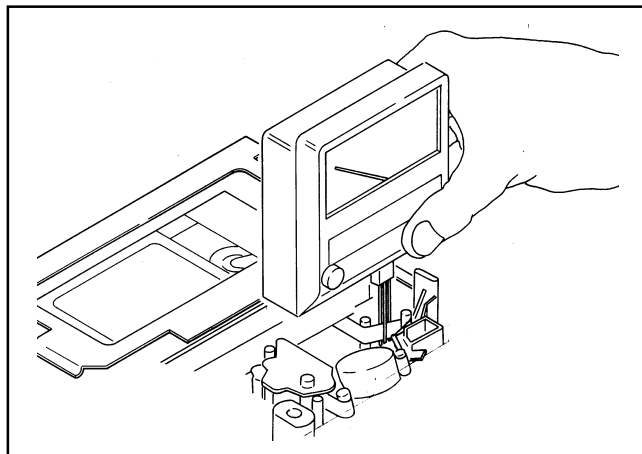

Figure 4-8-3
5. Insert the tension meter between S4 post and S5 post as shown in figure 4-8-3. (Direction is reverse)
6. Confirm that the tension value is within the specification. (Read the meter from rear side as shown in figure 4-8-3.)